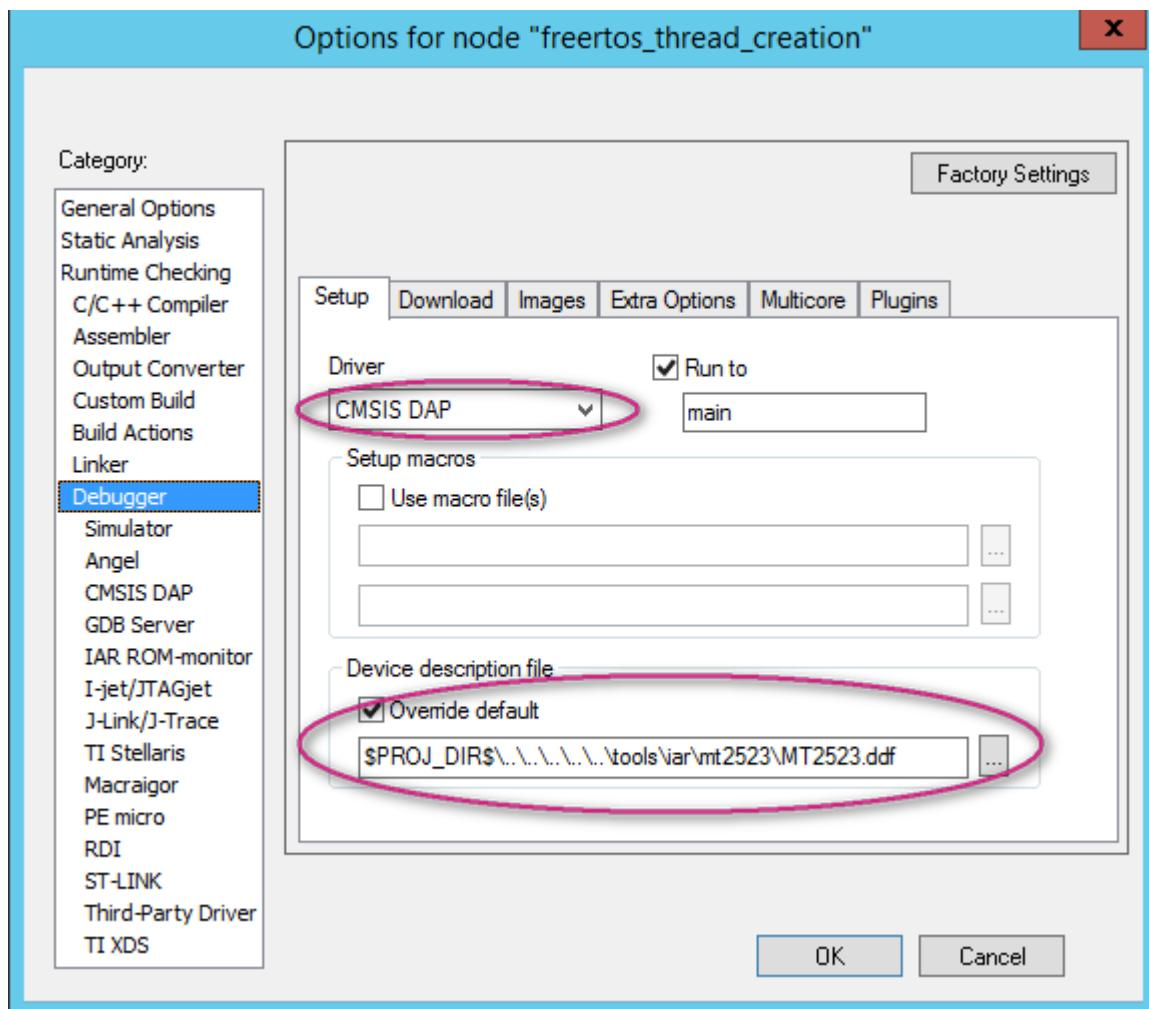

Figure 58. Select debug driver and ddf file
- a) Set **Driver** to **CMSIS-DAP** debugger (see Figure 58).